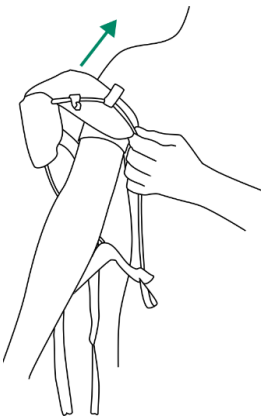

Figure 1
1. Put the arm through the bracket (Fig. 1).